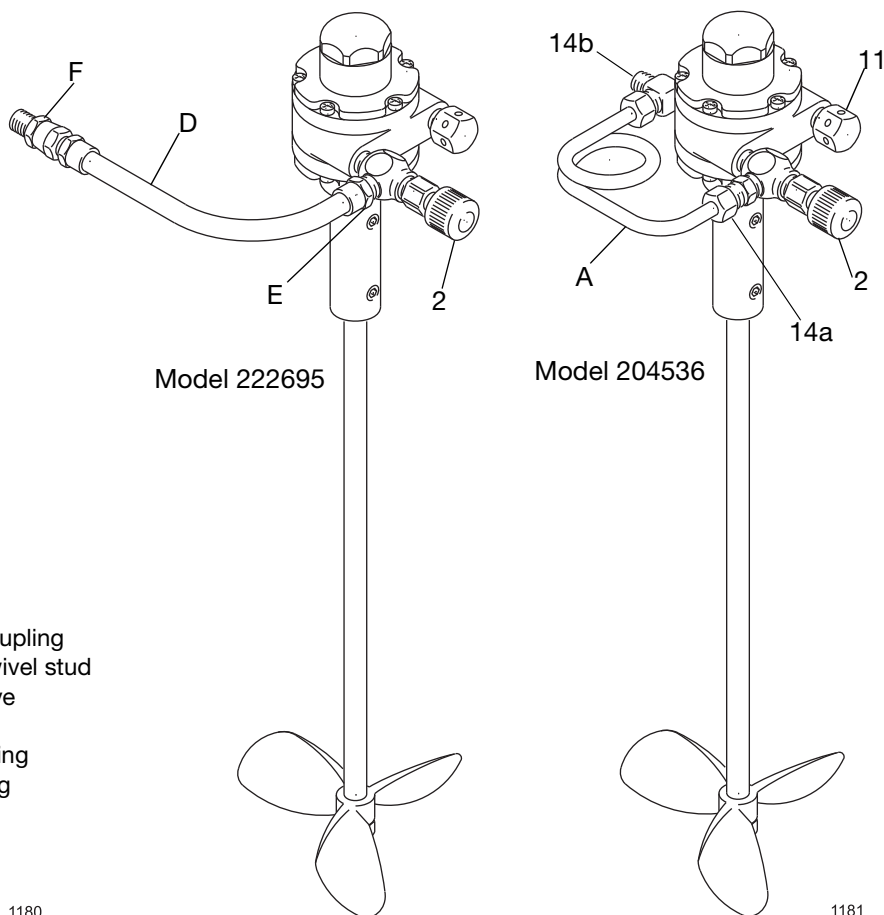

FIG. 2: Air Line and Hose Assembly
1. Remove the nut (5), lockwasher (4), blade (10), and pin (6) from the shaft (12 or 13). See **Parts**, page 12.
3. Position the air motor so the air line (D) can be attached easily and will not obstruct any other system components. See FIG. 2.
5. Install the pin (6), blade (10), lockwasher (4), and nut (5) onto the agitator shaft (12 or 13). Apply anaerobic sealant and torque nut (5). See **Parts**, page 12.
Screw the straight tube fitting (14a) into the needle valve's (2) 1/8 npt inlet. See FIG. 2. Screw the elbow fitting (14b) into the 1/8 npt air supply manifold outlet.
Screw the air hose coupling (E) into the needle valve's (2) 1/8 npt inlet. See FIG. 2. Screw the air hose swivel stud (F) into the 1/8 npt air supply manifold outlet.
Attach the air line between the needle valve's (2) 1/8 npt inlet and the 1/8 npt air supply manifold outlet. See FIG. 2.